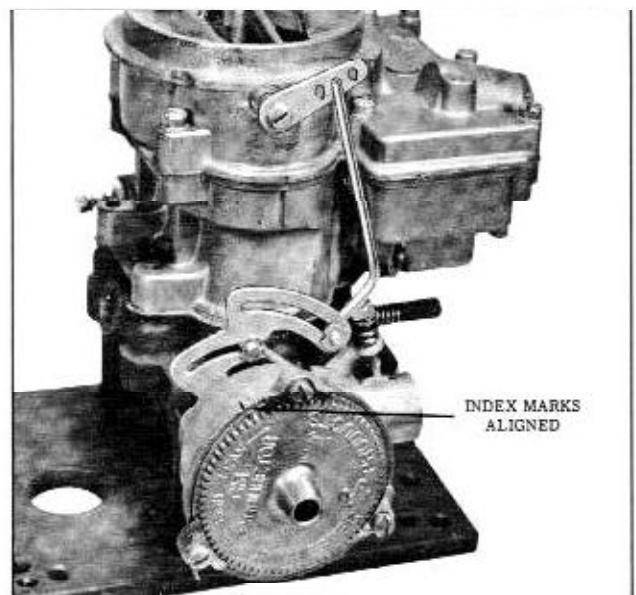

Fig. 8-148 Choke Coil Setting
3. Rotate the choke cover counterclockwise until the coil picks up the choke shaft tang, and the mark on the choke cover is on index. (Fig. 8-148)